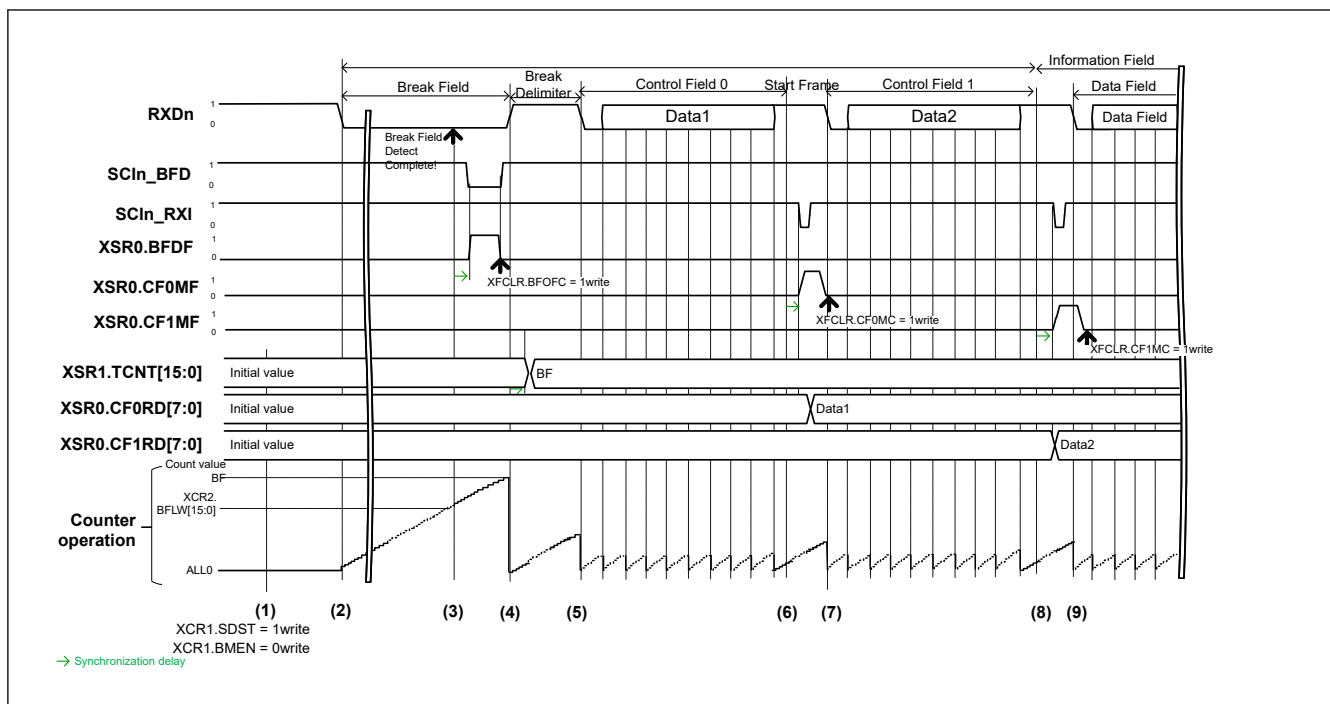
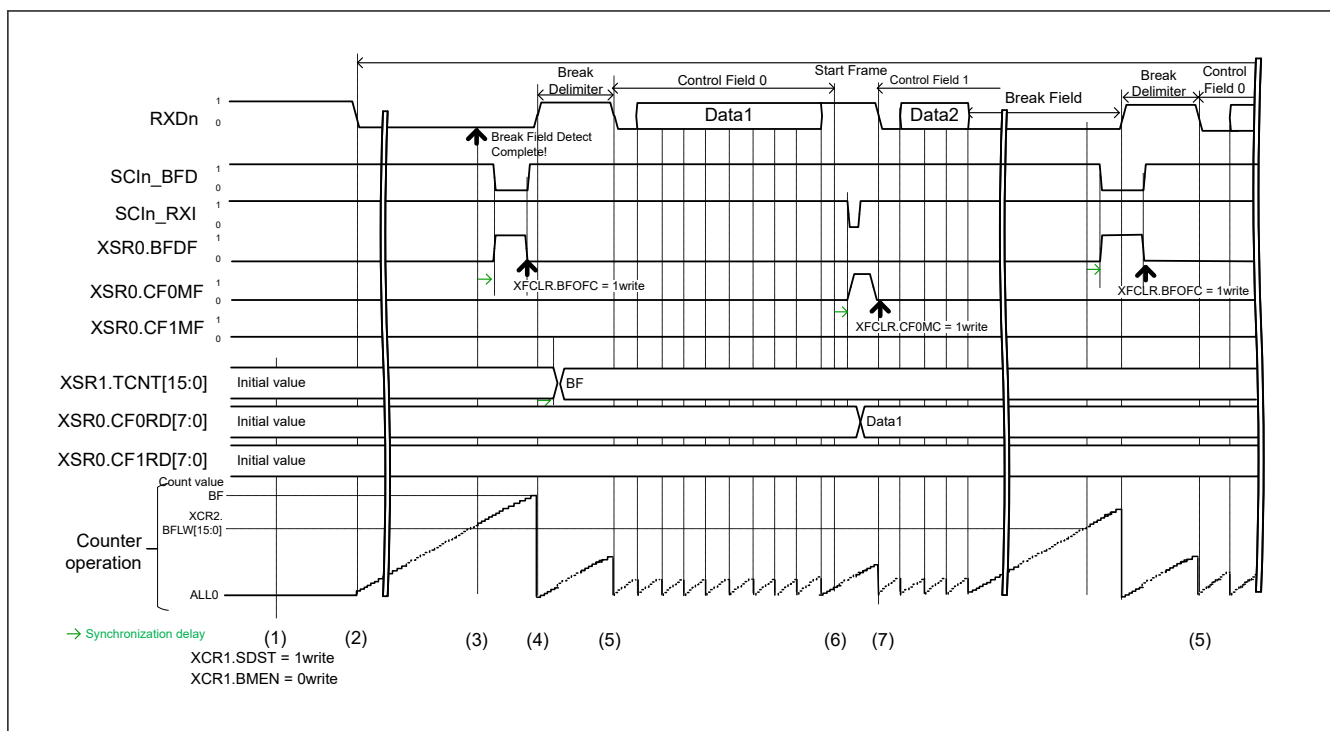
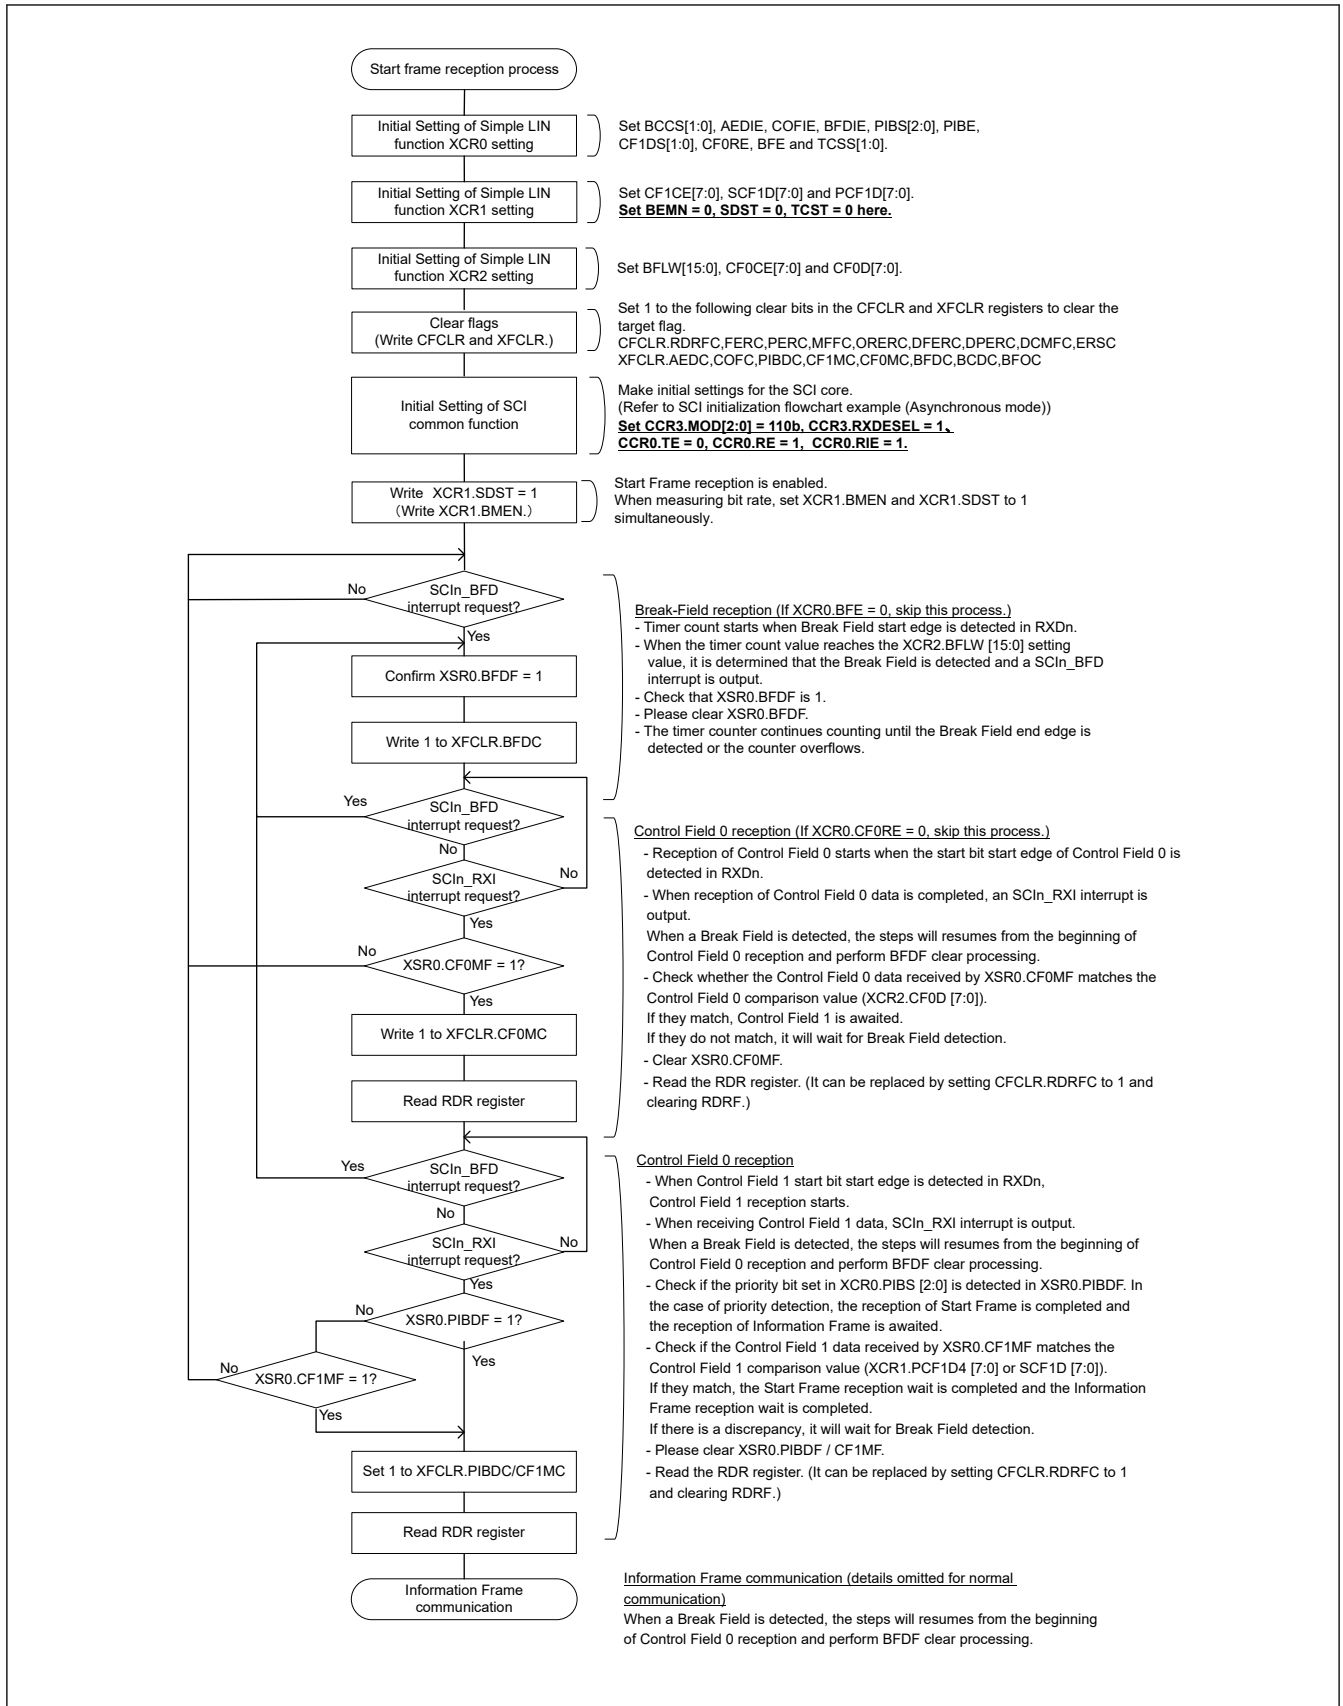
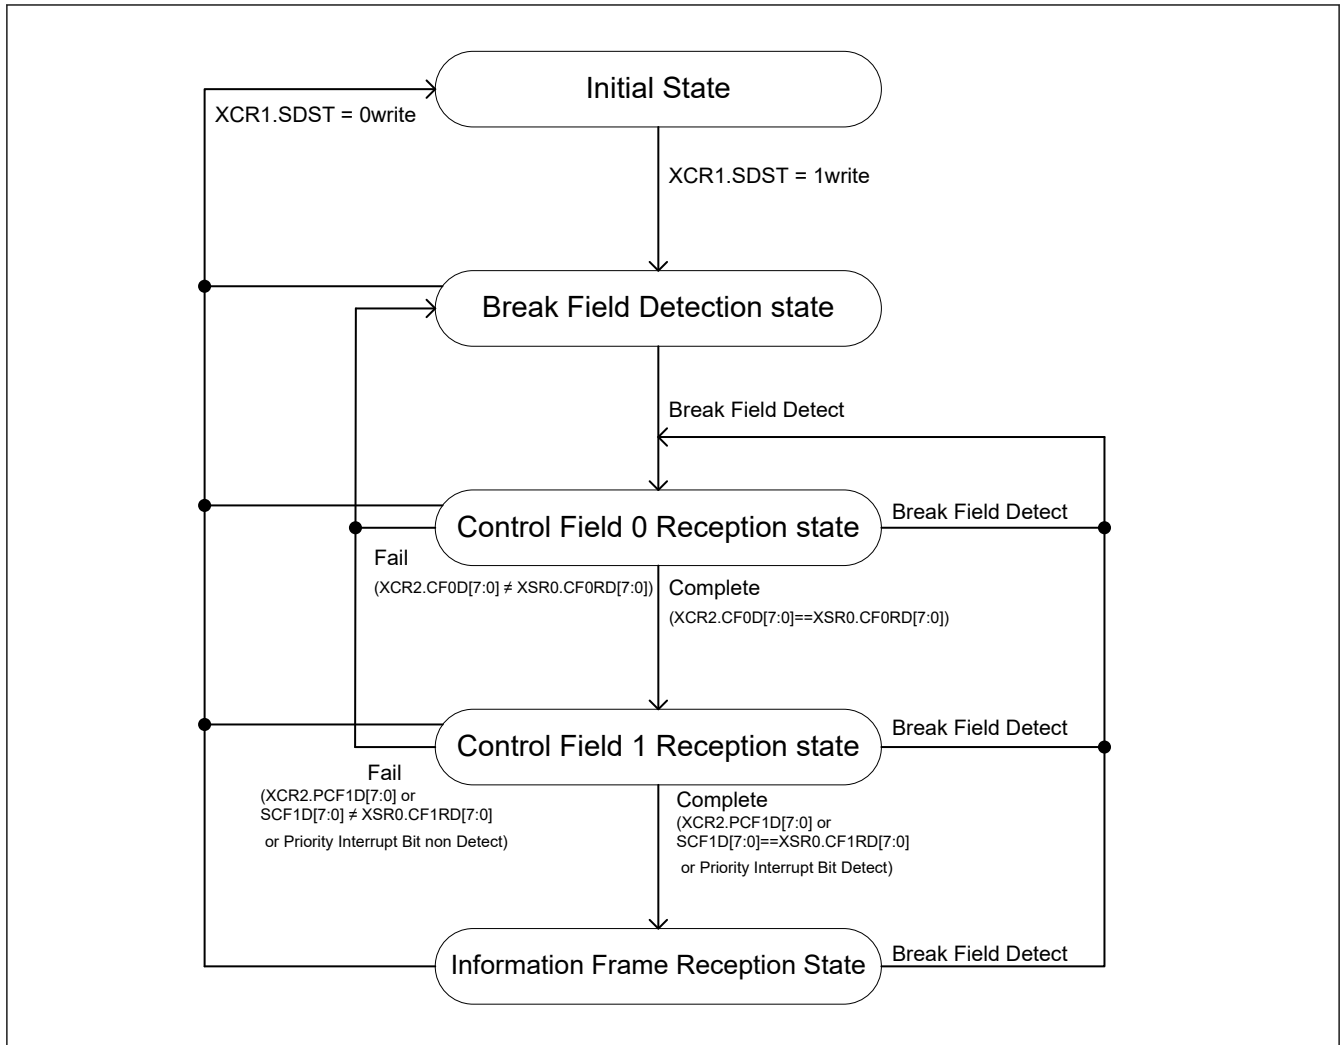

Figure 38.105 Normal Reception Example of Start Frame (PIB Not Used)
Figure 38.106 Start Frame Reception Example (PIB Not Used) Break Field Detected during Control Field 1
Figure 38.107 Example of Start Frame Reception Flowchart
Figure 38.108 State Transition Diagram of Start Frame Reception
Figure 38.105 shows an example of normal reception of the Start Frame consisting of a Break Field, Control Field0, and Control Field1. Figure 38.106 shows an example of reception to detect the Break Field during Control Field 1. Figure 38.107 shows a flowchart to receive the Start Frame, and Figure 38.108 shows a state transition diagram.
- The SCI core starts receiving Control Field 0. Because the simple LIN continuously counts the edge interval, it determines a low level that is equal to or longer than the period set in XCR2.BFLW[15:0] as detection of the Break Field. When the Break Field is detected in the Control Field 0 phase, the SCI core waits for reception of Control Field 0 again (Figure 38.106).
Steps (1) to (7) are the same as steps (1) to (7) in the Start Frame reception example in Figure 38.105.
(8) When the value specified in the **XCR0.PIBS[2:0]** bits matches the set **XCR1.PCF1D[7:0]** value, **XSR0.PIBDF** is set to 1 and the SCI core performs communication of the Information Frame. If the data received in Control Field 1 matches neither the set **XCR1.PCF1D[7:0]** value nor the set **XCR1.SCF1D[7:0]** value and the priority interrupt bit is not detected, the SCI transitions to the state before the Break Field is detected.
(9) Communicate information frame at the SCI core.